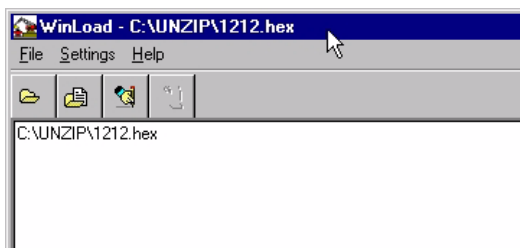

Figure 29: Open File in WinLoad
Once you have selected your file, the name should appear in the main display area and in the title bar, see *Figure 29* below.
3. Make sure the file path and file name are displayed in main display area, see *Figure 29, Open File in WinLoad*.